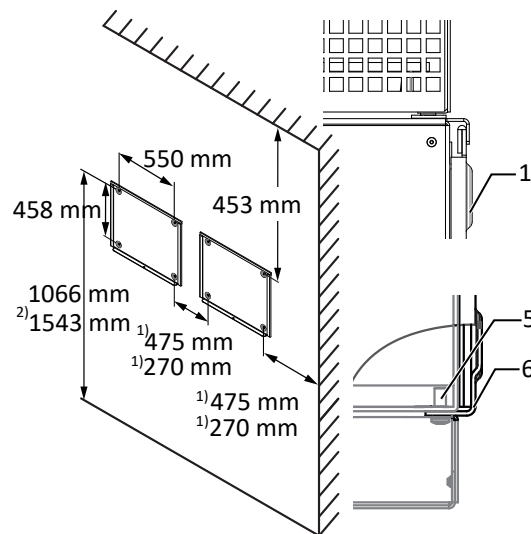

Fig. 17: Wall mounting
- Minimum clearances to be observed during installation: [See figure 17 [► Page 22]
2. Fit the device onto the upper mount by means of the mounting bracket. Fit the device onto the lower mounting bracket in full so that the device sits flush with its rear side on the mount ([See figure 17 [▶ Page 22]]).